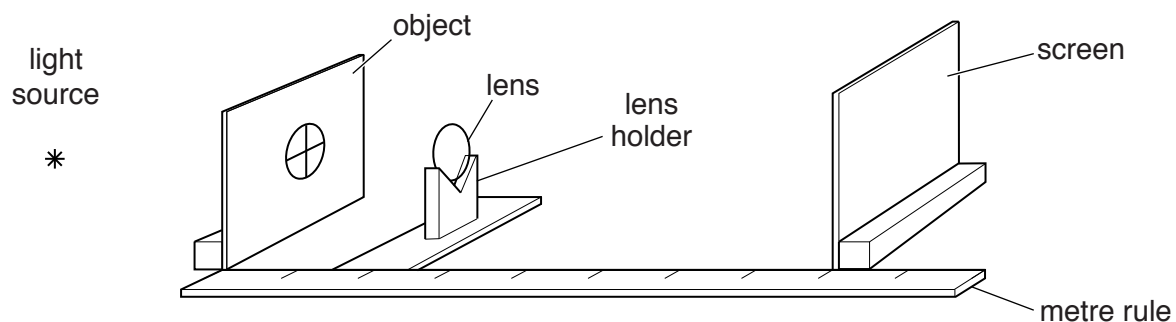

Fig. 4.1
5. The centre of the object, the light source and the centre of the lens when it is supported in the lens holder should all be at the same height above the bench. The **candidate** will set up the apparatus as shown in Fig. 4.1.